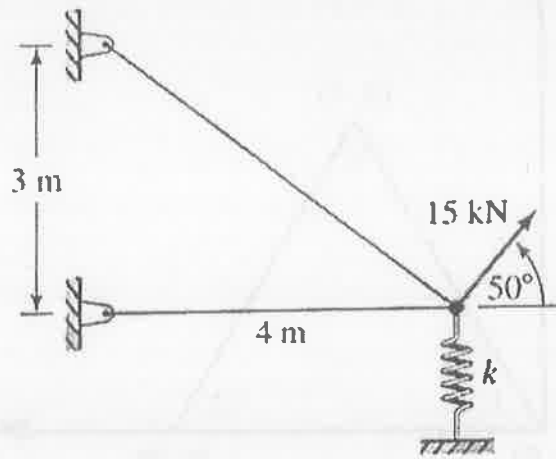

Figure. 3
- (b) Figure 3 shows a two-member plane truss supported by a linearly elastic spring. The truss members are of a solid circular cross-section having $d = 20 \text{ mm}$ and $E = 83 \text{ GPa}$. The linear spring has stiffness constant 50 N/mm . Assemble the system global stiffness matrix and calculate the global displacements of the unconstrained node.